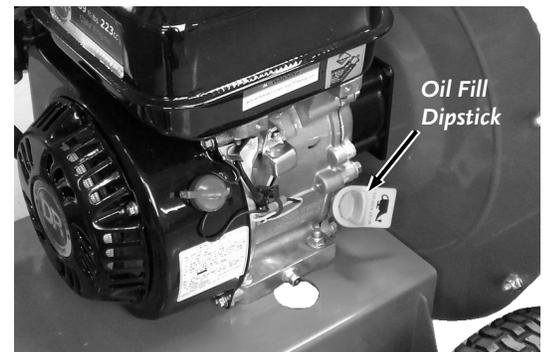

Figure 13
2. Remove the Oil Fill/Dipstick and add an initial quantity of the Oil recommended by the Engine Manufacturer (refer to your Engine Owner's Manual for recommended quantities) and wait one minute for the Oil to settle (**Figure 13**).